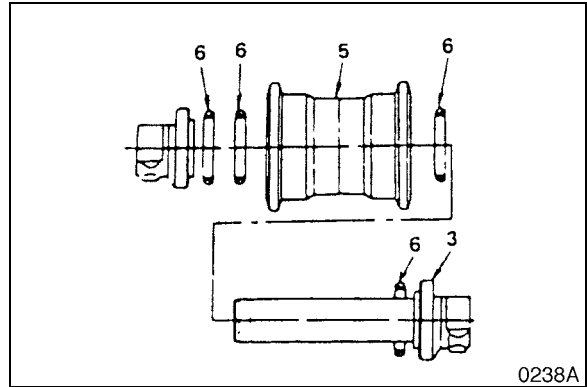

Figure 34
- Insert group seals (6, Figure 34) into the roller (5) and collar (3).